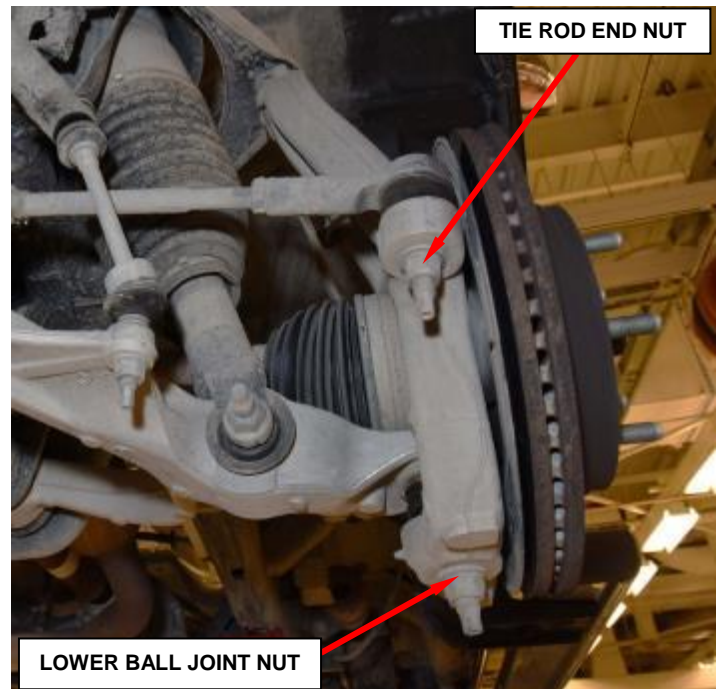

Figure 4 – Tie Rod End Nut
- f. Remove and **discard** the left side tie rod end nut from the ball stud (Figure 4).
- c. Tighten the upper ball joint nut to 40 ft. lbs. Plus 200° (54 N•m Plus 200°) (Figure 4).
- e. Install the tie rod end and tighten the **NEW** nut to 22 ft. lbs. Plus 90° (30 N•m Plus 90°) (Figure 4).